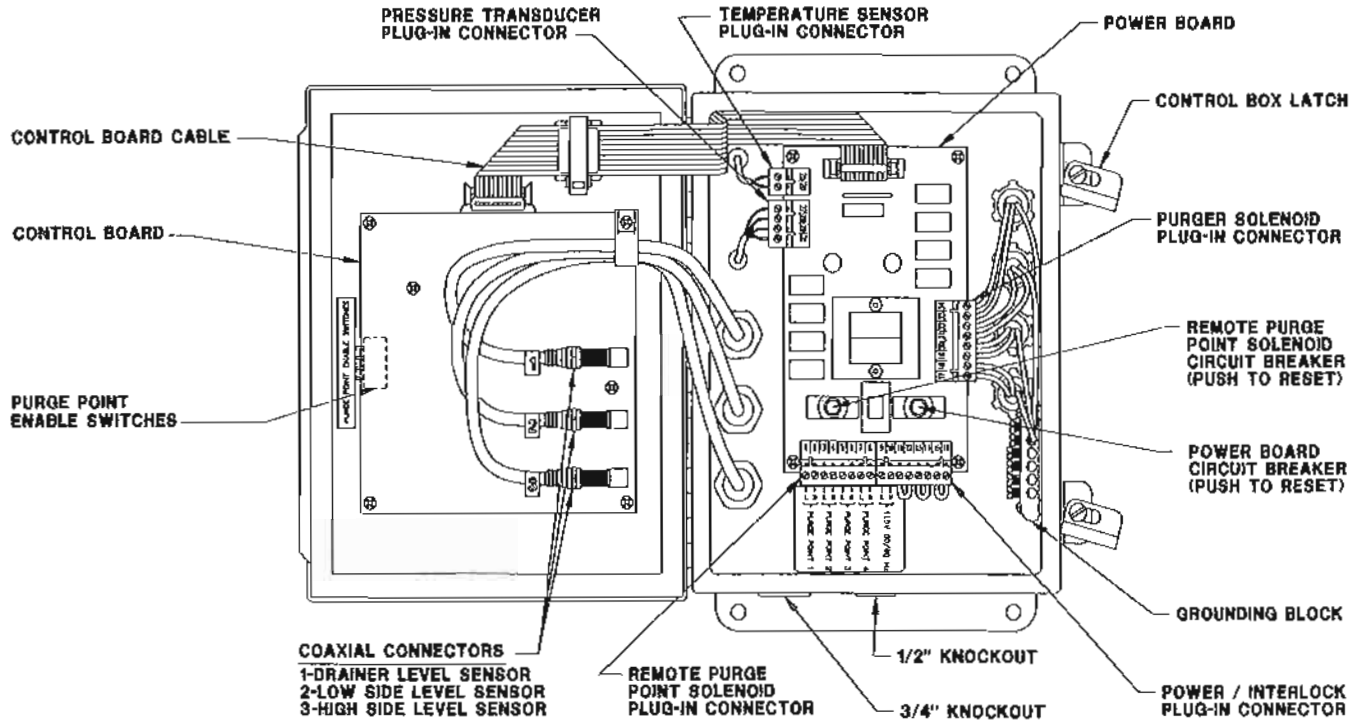
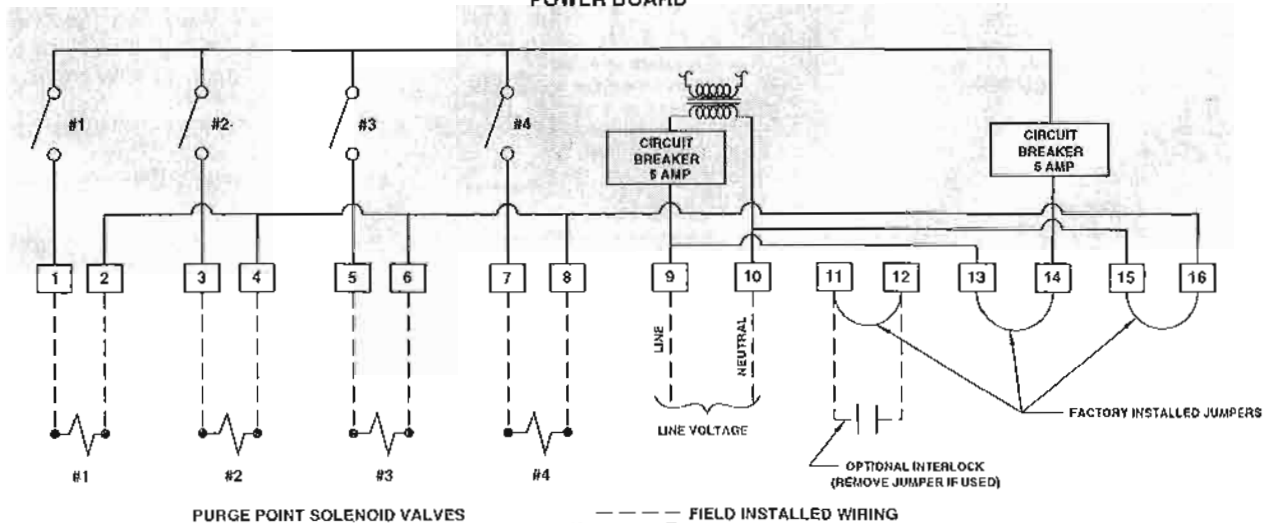

Figure 4.
Figure 5.
The standard electrical requirement for the APM is 115V 50/60 Hz; also available is 230V 50/60 Hz. The control cabinet has a bottom 1/2" knockout for power connection and bottom 3/4" knockout for individual purge point solenoid valves (See Figure 4). Any additional knockouts, if necessary, should be made on the bottom of the control cabinet. A grounding block inside the control cabinet is provided for 3-wire purge point solenoid coils. Carefully study the wiring diagram below (Figure 5) to avoid electrical short circuits.
**Check:** Liquid line shut-off valve. Also, check for energized liquid line solenoid valve (B).
**Check:** With temperature sensor plug-in connector disconnected from power board (see Figure 4), check electrical resistance of sensor across wire leads.